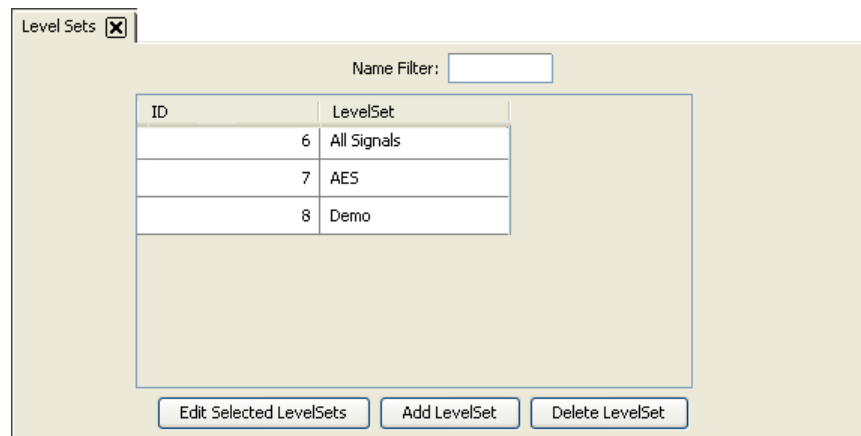

Figure 8-17. Level Sets Page
- 2 From the Navigation area, select the 'Configuration' pane and then 'Level Sets'. The 'Level Sets' page appears, as shown in Figure 8-17.